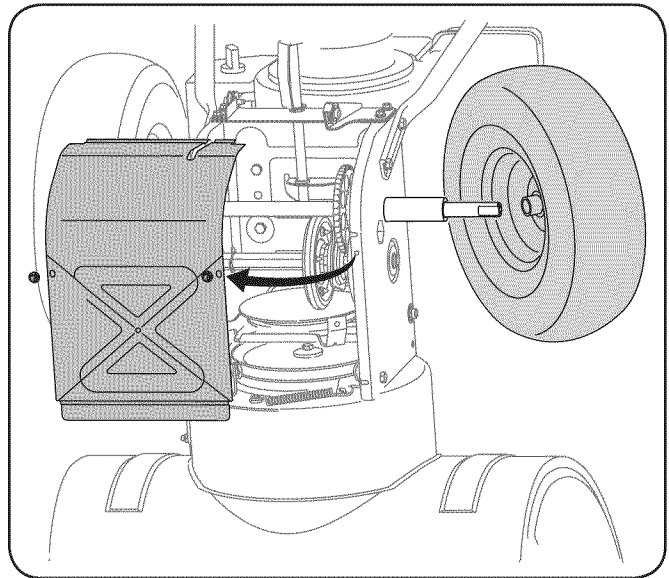

Figure 7-8
- Remove the frame cover from the underside of the snow thrower by removing four self-tapping screws which secure it. Remove the right-hand wheel by removing the screw and bell washer which secure it to the axle. See Fig. 7-8.